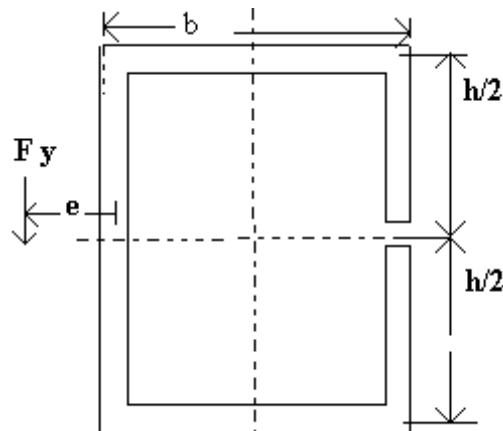

Figure 2:
3. A cross-section of a slit rectangular tube of constant thickness is shown in figure 2. Show that shear centre  $e = \frac{b(2h+3b)}{2(h+3b)}$